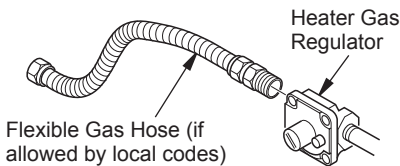
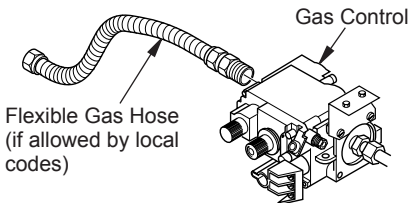

Figure 11 - Attaching Flexible Gas Hose to Heater Gas Regulator (Variable Manually-Controlled Models Only)
Figure 12 - Attaching Flexible Gas Hose to Heater Gas Regulator (Remote-Ready Models Only)
1. Apply pipe joint sealant lightly to male threads of gas fitting (not provided). For Variable Manually-Controlled Models connect approved flexible gas hose to gas regulator of heater (see Figure 11). For Remote-Ready models connect approved flexible gas hose to inlet side of gas control (see Figure 12).